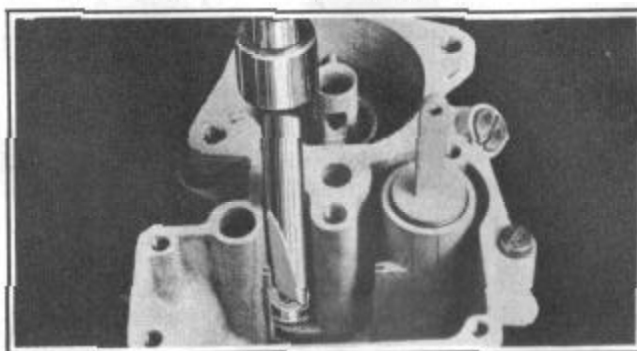

FIGURE 34
15. Install metering rod jet and gasket assembly, Figure 34. Examine for wear.